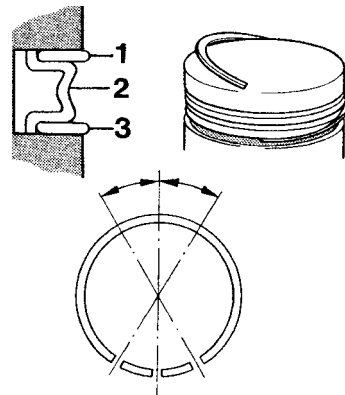

Fig. 52. Fitting of oil ring (MD2040)
**MD2040:** Place the expander (2, Fig. 52 on page 38) to the oil scraper rings in the piston ring groove. Check that the ends on the expander do not overlap each other. Fit the top scraper ring (1) over the the expander. Put in one end of the ring in the groove and hold it in place with your thumb. Push the ring in position with your other thumb.
Check that the scraper rings run easily in both directions and that the ends on the expander and the rings are in the correct position (Fig. 52).
**MD2040:** Check that the ends on the expander and scraper rings are in the correct position (Fig. 52).